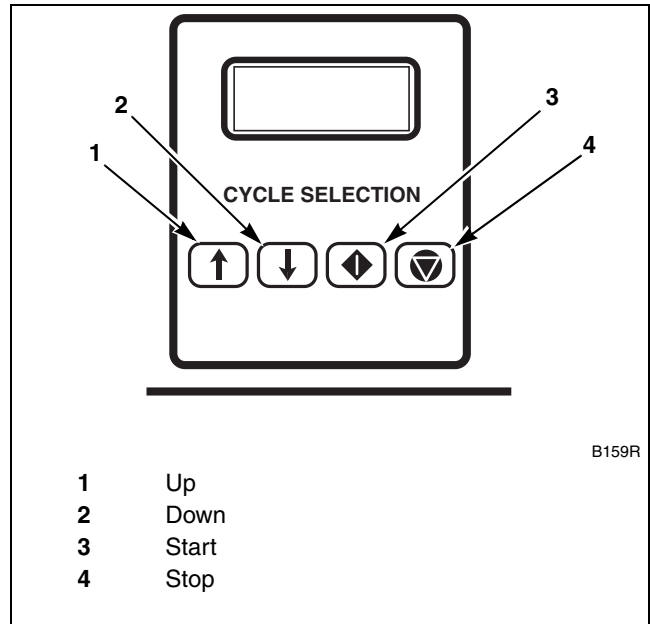

Figure 13
8. Press the START key. Refer to *Figure 13*.
9. Press the UP and DOWN keys to select wash cycle. Press the START key. Refer to *Figure 13*.